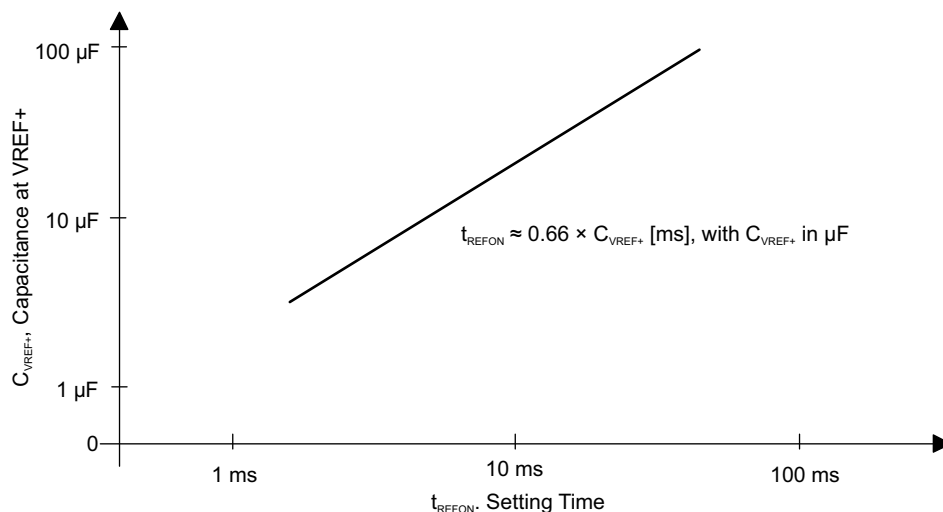

Figure 5-13. Typical Settling Time of Internal Reference (tREFON) vs External Capacitor on VREF+
| t REFON     | Settling time of referencevoltage (4)(1) (see Figure 5-13) | I VREF+ = 0.5 mA, C VREF+ = 10 μF,V VREF+ = 1.5 V, V AVCC = 2.2 V                                     |                          |     |      | 17   | ms     |